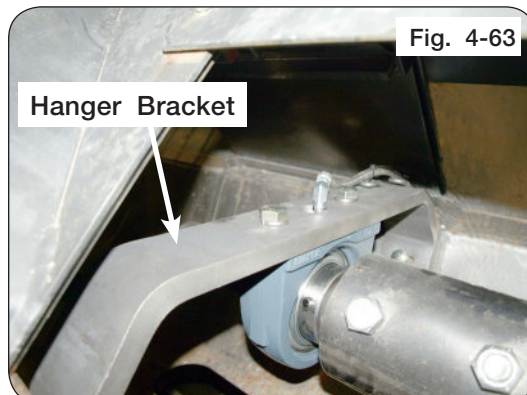

Fig. 4-63
27. Torque hanger bracket capscrews to 130 ft.-lbs. See Figure 4-63.